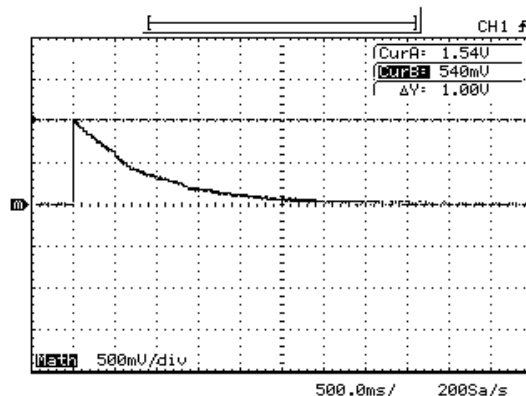

Figure 10. Y1-Y2 Waveform using a Defib-5P Pass/Fail Reference
12. The oscilloscope should display a waveform similar to Figure 10, with a peak value of approximately 1 volt.